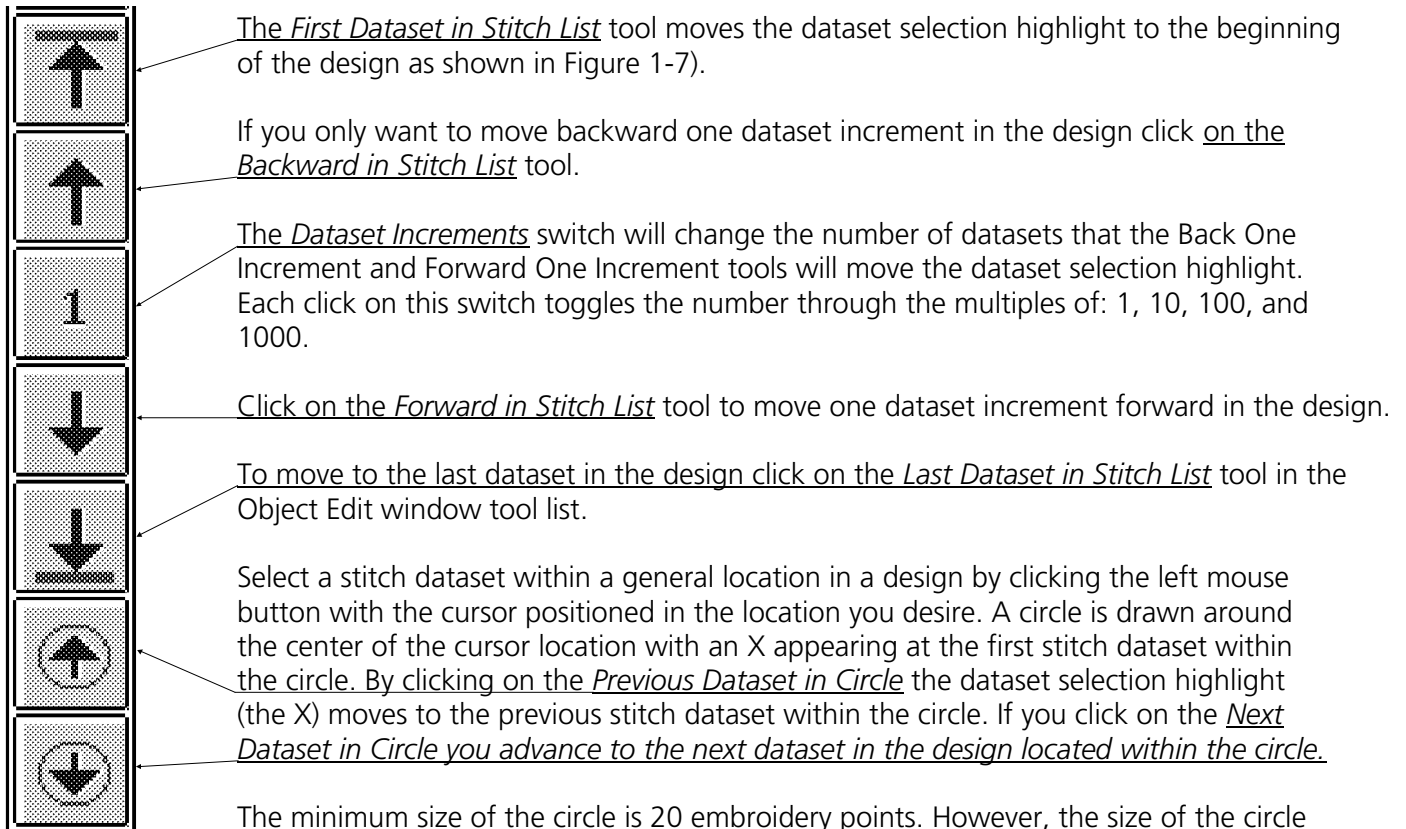

Fig. 1-8
- Method 1. Click on the appropriate "movement in stitch list" tool in the Object Edit toolbar. (See Figure 1-8 and the following discussion for information about these various movement tools.)